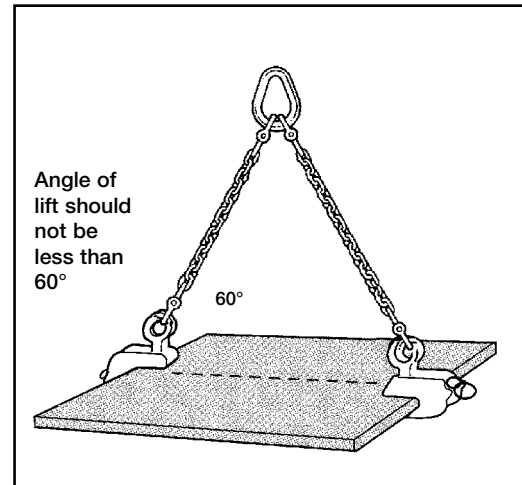
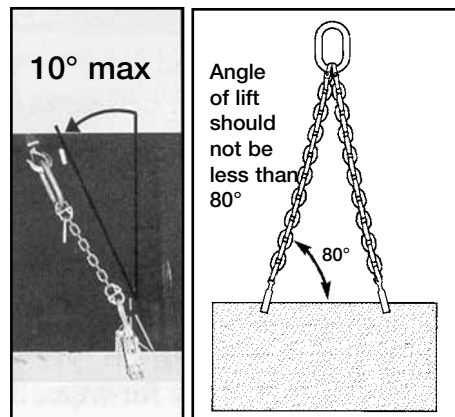

Figure 25
Figure 26
Determine if more than one sling is required to balance the load (Fig. 25). When the size or shape of a plate or fabricated section is too large for one clamp to properly balance the load, the use of a multiple sling or spreader bar is required.
- B. The lifting angle (Fig. 25) between the sling legs on opposite sides of the load should be less or equal to 60 degrees. The lifting angle (Fig. 26) between the sling legs on same side of the load should be less or equal to 20 degrees.
Position the clamp(s) to balance the load. Position the clamp(s) so the lifting force of the crane is directly in line with each clamp's lifting shackle, and the load is evenly distributed (Fig. 26).